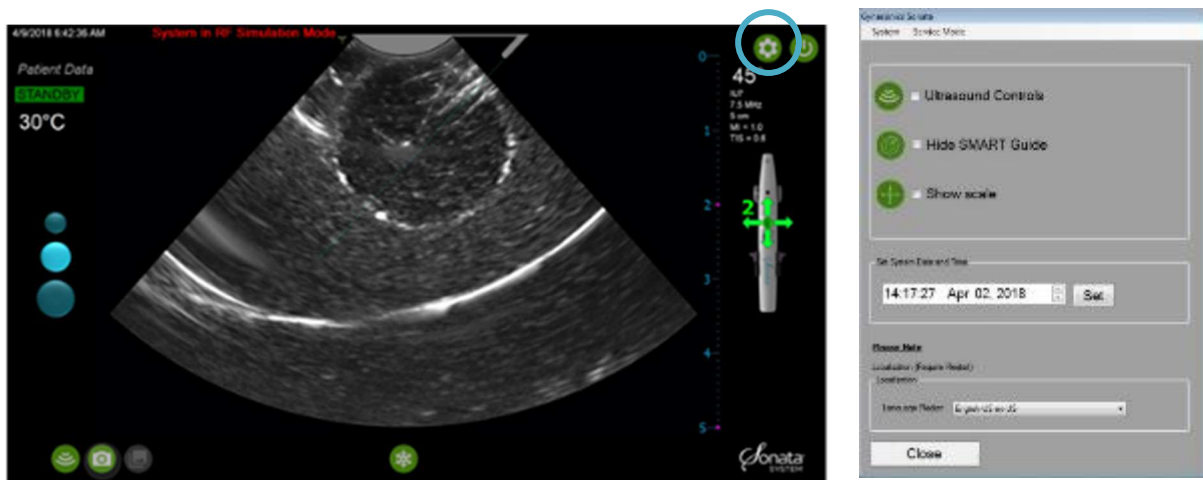

Figure 6-3. Customization is available through the Preferences window.
- Click on the Preferences icon  in the upper right-hand corner of the ultrasound display screen to display the Preferences menu, see Figure 6-3.